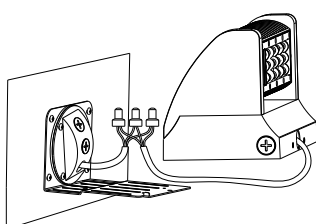

Figure 3-5
5. Make wiring connection and go through isolation treatment.(Figure 3-5)